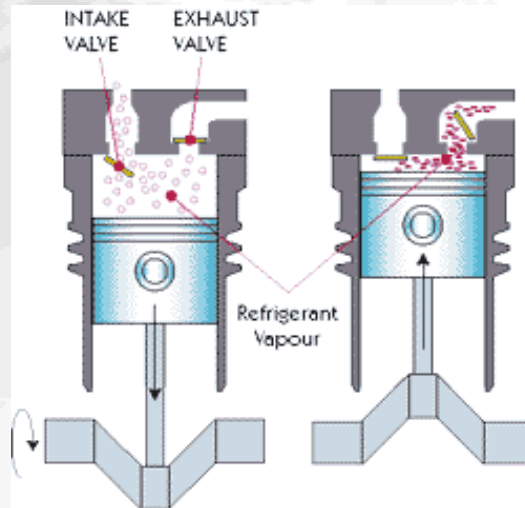

Fig.10-3 The compression cycle [13]
- ◆ Fig. 10-3 shows single-acting piston actions in the cylinder of a reciprocating compressor.